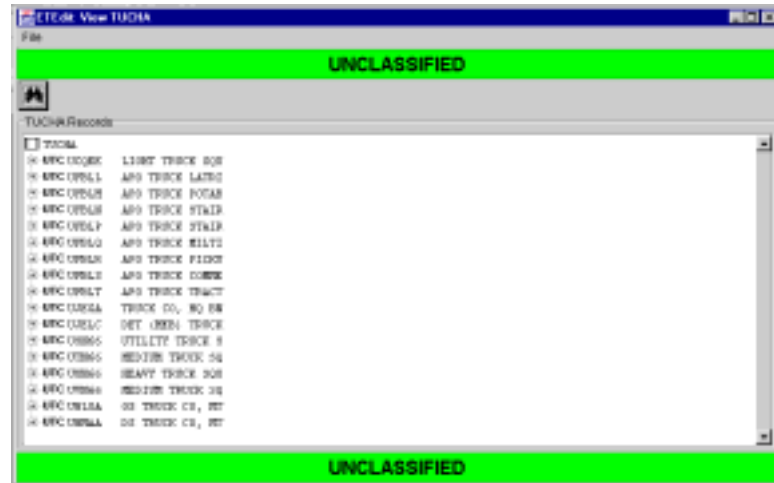

Figure 5.77 ETEdit: View TUCHA Window
7. On the Select TUCHA window, click OK. The Select TUCHA window closes, and the RLNs that meet the selected TUCHA search parameters are displayed in the ETEdit: View TUCHA window (Figure 5.77).